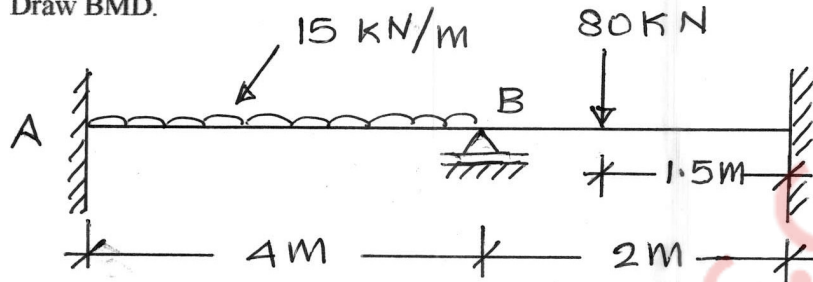

Figure 5
- b) Analyse the beam shown in Figure 5 using **Slope Deflection Method**. Draw BMD. 12